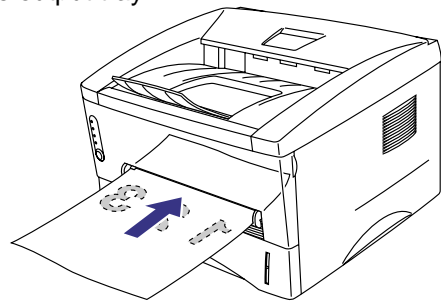

Fig. 2-27
- (1) Select the required manual duplex printing mode and manual feed mode from the driver.
- (2) Using both hands, insert the paper into the manual feed slot with the side to be printed first facing upwards. Follow the instructions on the computer screen.
- (3) Repeat action (2) until you have printed all the even numbered pages.
- (4) Remove the printed even numbered pages from the output tray
- (5) Re-insert them in order into the manual feed slot, loading the paper with the side to be printed (blank side) face up, and the top edge towards the printer. Follow the instructions on the computer screen. (Fig. 2-27)
- (6) Repeat action (5) until you have printed all the odd numbered pages on the reverse side of the paper.